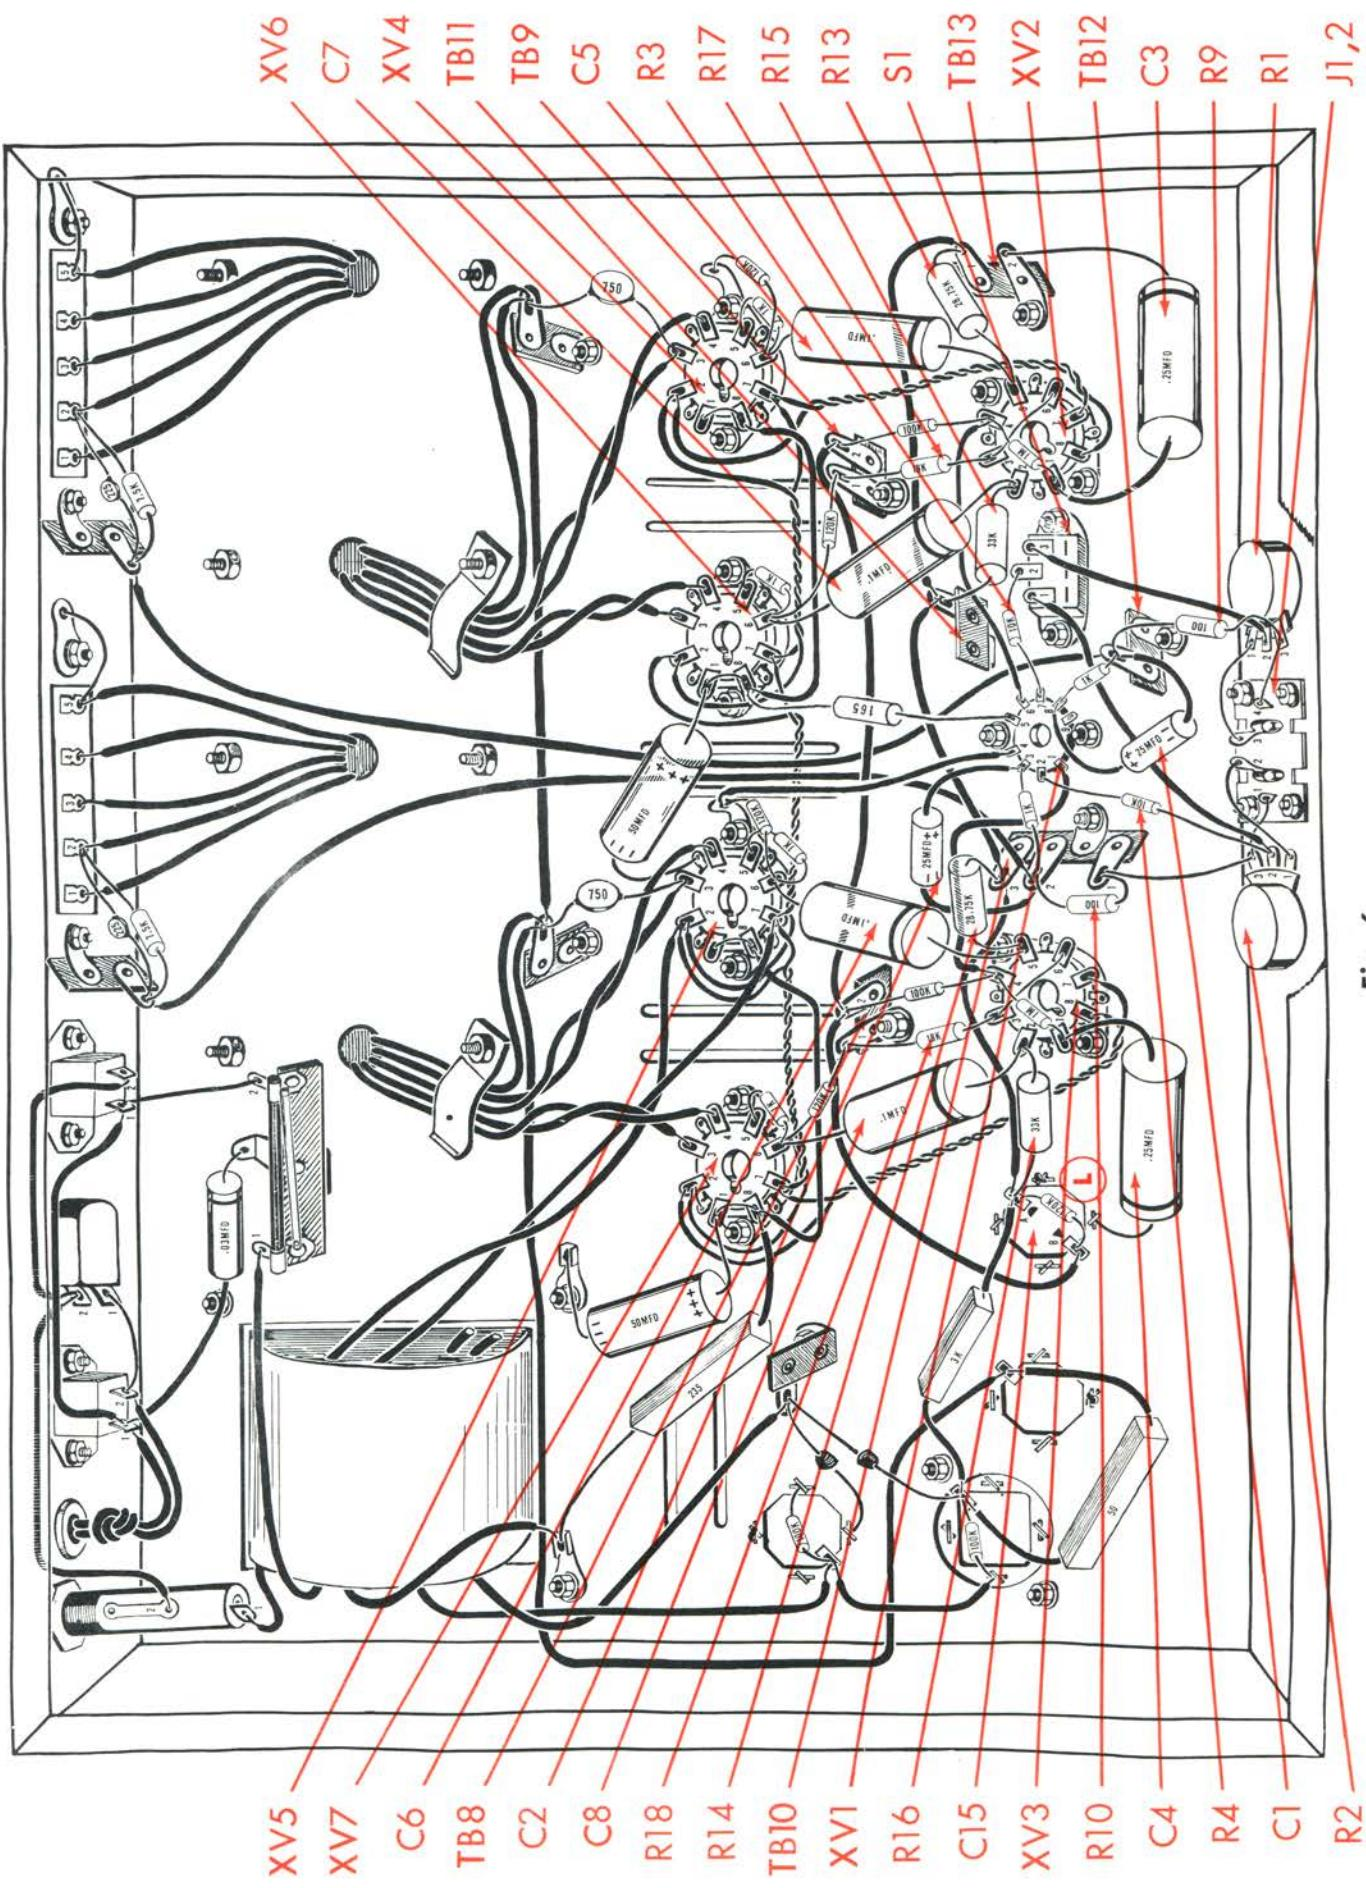

Fig. 6
- () 1. Fig. 6. Connect a 1 1/4" piece of bare wire from R2-3 (C) to TB10-1 (C).
- () 2. Fig. 6. Connect a 1 1/4" piece of bare wire from J1, 2-1 (S1) to R2-3 (S2).
- () 3. Fig. 6. Connect a 1 1/2" piece of bare wire from J1, 2-2 (S1) to R2-1 (S1).
- () 4. Fig. 6. Connect a 1 1/4" piece of bare wire from J1, 2-4 (S1) to R1-3 (C).
- () 5. Fig. 6. Connect a 1 1/4" piece of bare wire from J1, 2-3 (S1) to R1-1 (S1).
- () 6. Fig. 6. Connect a 3" piece of green wire from R1-2 (S1) to S1-3 (S1).
- () 7. Fig. 6. Connect a 4" piece of green wire from R2-2 (C) to S1-1 (S1).
- () 8. Fig. 6. Cut both leads on a 25mfd 6 volt electrolytic capacitor, C1, to 1". Cover each lead with a 3/4" piece of spaghetti. Connect the positive lead to XV1-8 (S2) and the negative lead to TB12 (C).
- () 9. Fig. 6. On the other 25mfd 6 volt electrolytic capacitor C2, cut the positive lead to 3/4". Cover this lead with a 1/2" piece of spaghetti and connect to XV1-3 (S2). Cut the remaining lead to 1 1/4" and cover it with a 1" piece of spaghetti. Connect this lead to TB10-2 (C).
- () 10. Fig. 6. Cut all leads on two 100Ω (brown, black, brown, gold) 5% resistors, R9 and R10, to 1/2". Connect R9 from TB12 (S4) to R1-3 (S2). Connect R10 from TB10-1 (S2) to TB10-2 (S4).
- () 11. Fig. 6. Cut one lead of the 10K (brown, black, orange, silver) resistor R3 to 1/2" and the remaining lead to 1". Connect the shorter lead to XV1-7 (S1) and the longer lead to S1-2 (S1).
- () 12. Fig. 6. Cut one lead on the 10K (brown, black, orange, silver) resistor, R4, to 1/2" and the remaining lead to 1 1/4". Connect the shorter lead to XV1-2 (S1) and the longer lead to R2-2 (S2).
- () 13. Fig. 6. Cut all leads on two .25 mfd (red, green, yellow, white, yellow) 400 volt molded capacitors, C3 and C4, to 1 1/4". Cover one lead of C3 with a 1" piece of spaghetti and connect to XV2-1 (S2). Connect the remaining lead to TB13-2 (S1). Cover one lead of C4 with a 1" piece of spaghetti and connect to XV3-1 (S2). Connect the remaining lead to ground lug "L" (S1), at C15.
- () 14. Fig. 6. Cut all leads on two 18K (brown, grey, orange, gold) 5%, 1 watt resistors R17 and R18, to 3/4". Connect R17 from XV2-3 (S2) to TB9-1 (S2). Connect R18 from XV3-3 (S2) to TB8-1 (S2).
- () 15. Fig. 6. Cut all leads on two 28.75K (red, grey, grey, gold) 5%, 1 watt resistors, R13 and R14, to 1/2". Connect R13 from TB13-1 (S2) to XV2-5 (C). Connect R14 from XV3-5 (C) to TB10-3 (S3).
- () 16. Fig. 6. Cut all leads on two 33K (orange, orange, orange, gold) 5%, 1 watt resistors, R15 and R16, to 3/4". Connect R15 from XV2-2 (C) to TB11 (S3). Connect R16 from XV3-2 (C) to C15A (S4).
- () 17. Fig. 6. Cut all leads on four .1 mfd (brown, black, yellow, white, blue) molded capacitors, C5, C6, C7, and C8, to 1". Connect C5 from XV2-5 (S2) to XV4-6 (S3). Connect C7 from XV2-2 (S2) to XV6-6 (S3). Connect C6 from XV3-5 (S2) to XV5-6 (S3). Connect C8 from XV3-2 (S2) to XV7-6 (S3).
- () 18. Fig. 6. Push the end of the line cord with tinned leads through the rubber grommet at the rear of the chassis. Tie a knot in the line cord 2" from the tinned ends. This knot is to be tied inside the chassis so that the line cord cannot pull through the grommet. Connect one of the tinned leads to J4-2 (S2) and the remaining tinned lead to J4-1 (S3).